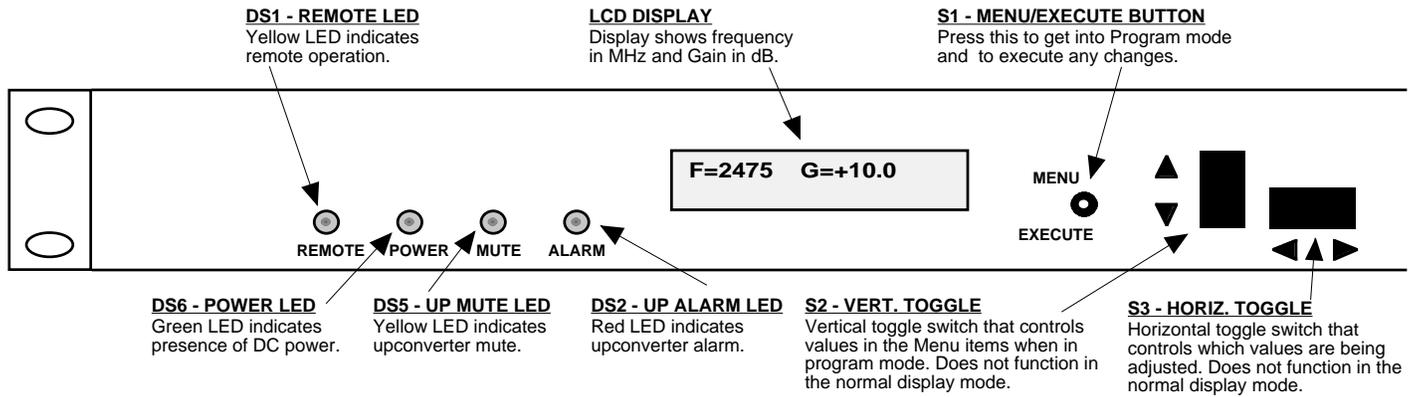

FIGURE 2.3 2015-26 Front Panel Controls and Indicators
7. Be sure DS6 (green, DC Power) is on and DS2 (red, Alarm) is off (Figure 2.3).
Alarm indications appear on the LEDs (See figure 2.3).